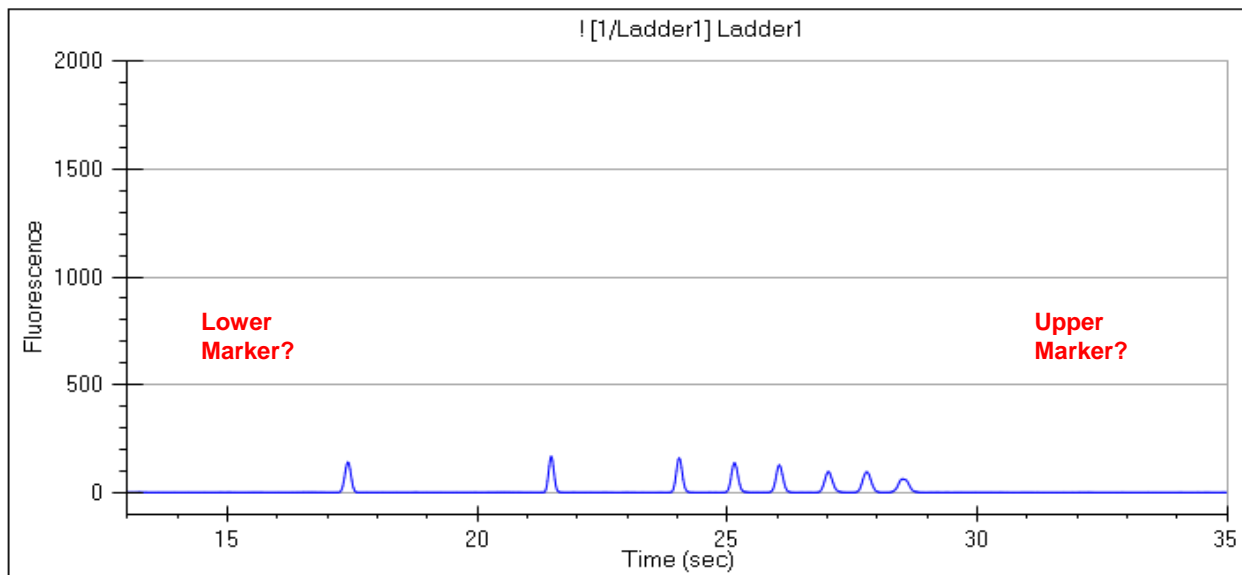

Figure 17. Example electropherogram of Ladder with ladder peaks but no marker peaks.
2. **Symptom: No marker peaks but sample peaks are present. See Figure 17 for an example.**